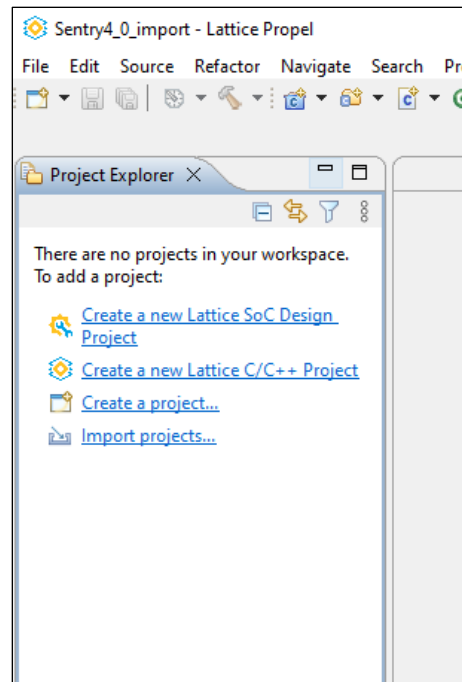

Figure 5.3. Import Projects
3. In the **Project Explorer** view, click **Import projects**, or choose **File -> Import Projects** from the menu (Figure 5.3).
3. In the Project Explorer view, click **Import projects**, or choose **File** -> **Import Projects** from the menu (Figure 5.3).